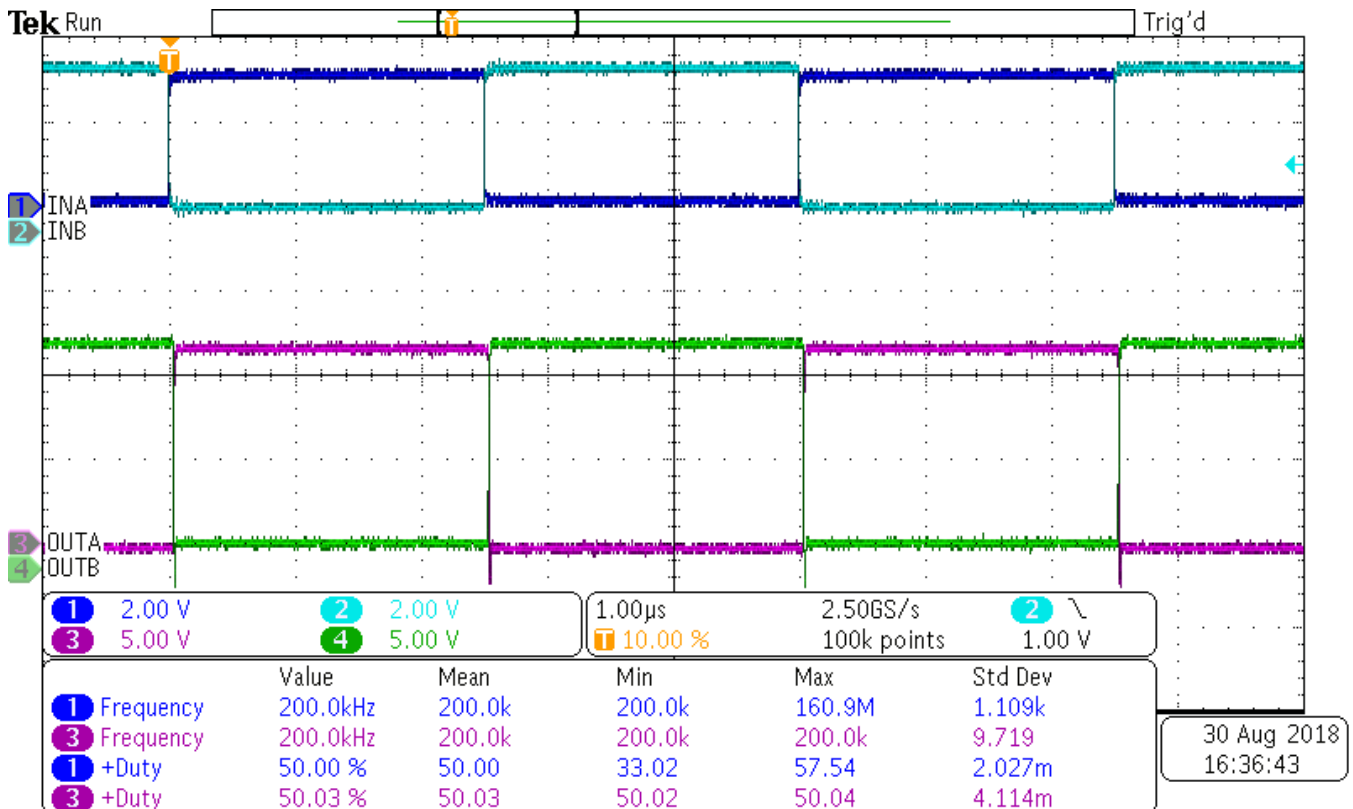

Figure 3. Example Input and Output Waveforms (Inputs: CH1 and CH2, Outputs: CH3 and CH4)
1. Before proceeding with the power up test procedure, ensure that the steps in Section 4.2.6 are complete. Then, Figure 3 can be used as a reference for the expected behavior of the EVM. Figure 3 assumes J4 is left in the default position, bypassing the dead time feature.
1. Stable pulse output appears on channel 1 and channel 2 in the oscilloscope, see Figure 3.